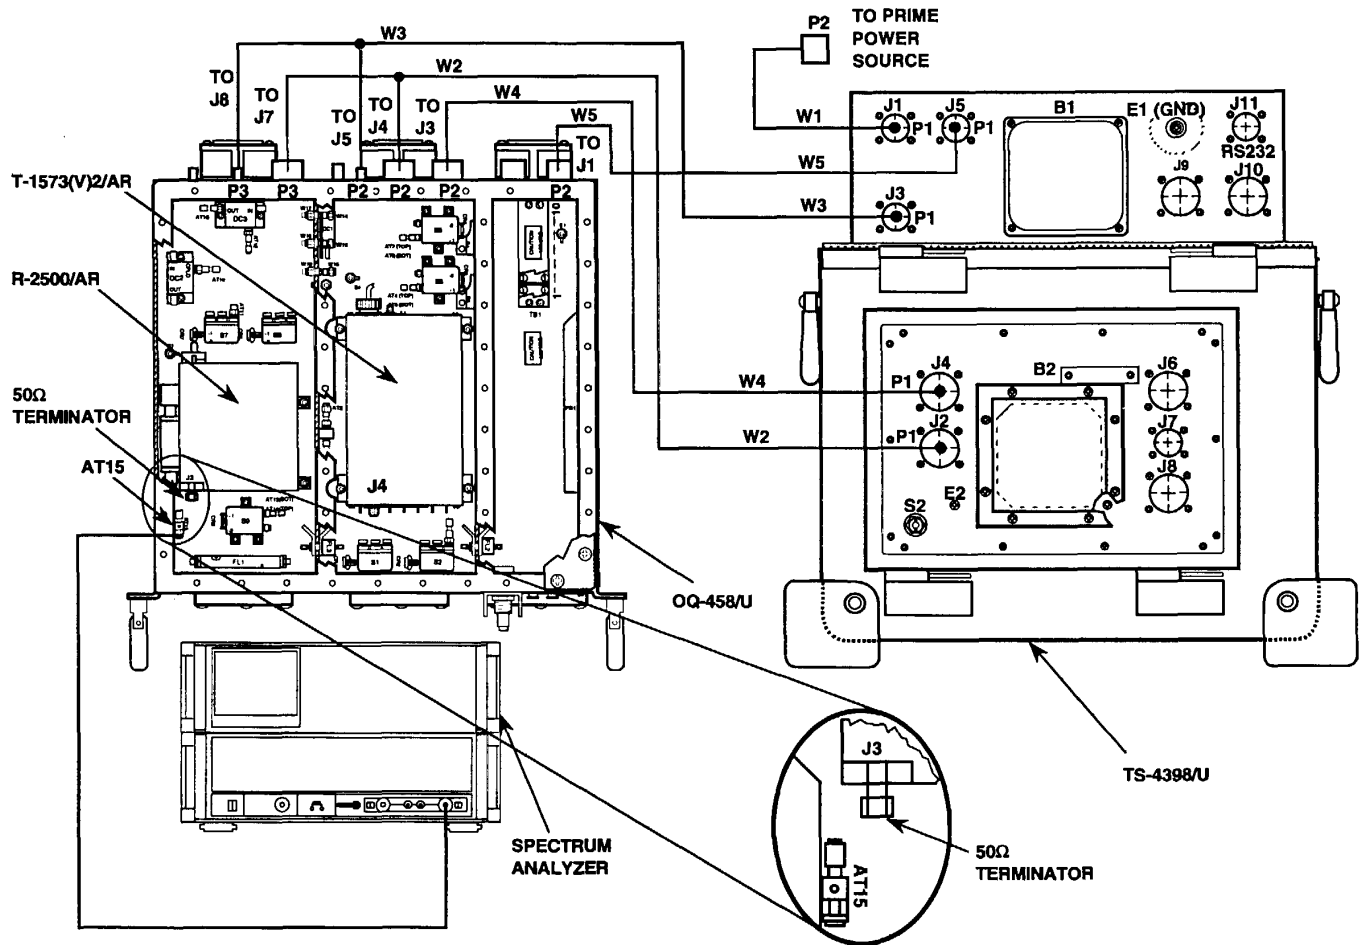

Figure 5-18. OQ-458/U ISOLATION TEST INTERCONNECTIONS (AT15 OUTPUT).
All cables used during the OQ-458/U isolation test are found in cable assembly case CY-8676/U unless otherwise noted. The interconnections for the test are shown in figures 5-16 and 5-18. Figure 5-16 shows the Radio Transmitter, T-1573(V)2/AR, J4 output test interconnection. Figure 5-18 shows the AT15 output test interconnection. The test controller, TS-4398/U, controls and indicators used during the test are shown in figure 5-17.
42.	Connect a cable from the input of the spectrum analyzer to the AT15 output (see figure 5-18).